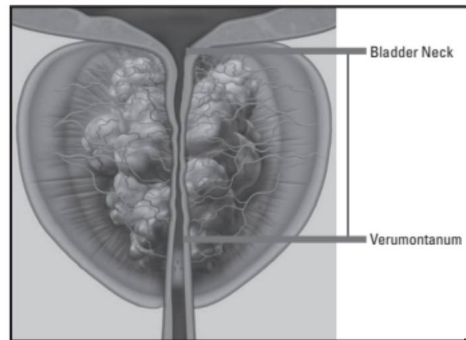

Figure 12. Prostatic Treatment Length.
7. Estimate the prostatic treatment length (i.e. from bladder neck to verumontanum). This length is considered the vapor treatment zone (Figure 12).